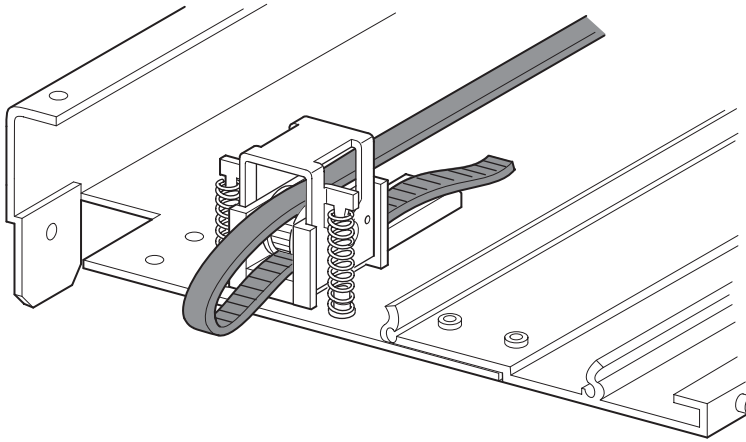
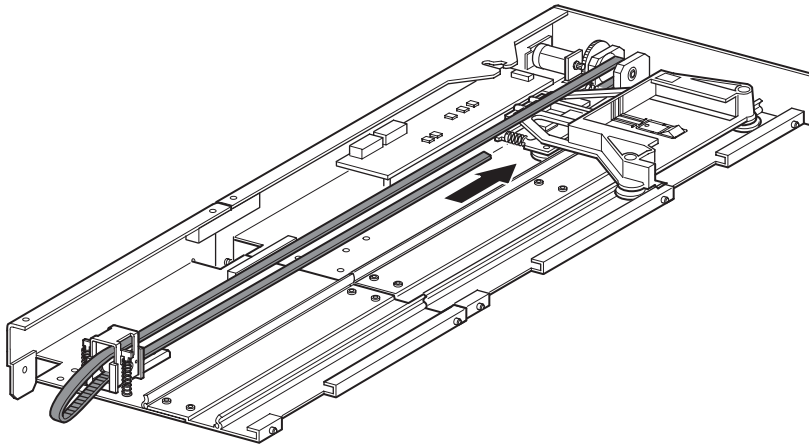

Figure 20 Installing the timing belt on the extension
Figure 21 Installing the timing belt
3. Thread the timing belt through the top of the belt tensioner ramp and idler pulley and then through the motor drive pulley. Make sure the belt teeth engage both pulleys (see Figure 20 and Figure 21 on page 29).